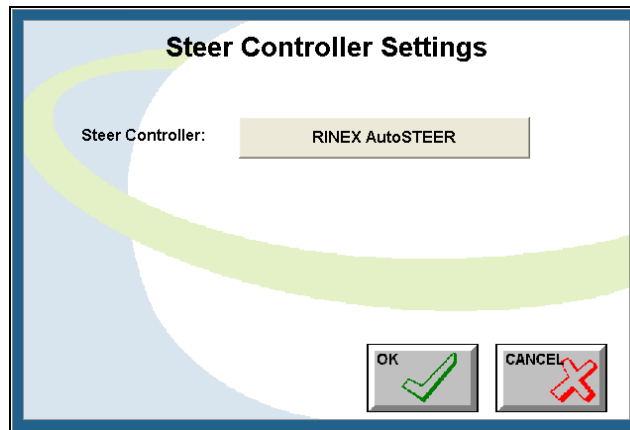

Figure 3-2: Steer Controller Settings Window
- 4) Touch **STEER CONTROL** to display the Steer Controller Settings Window (see Figure 3-2)